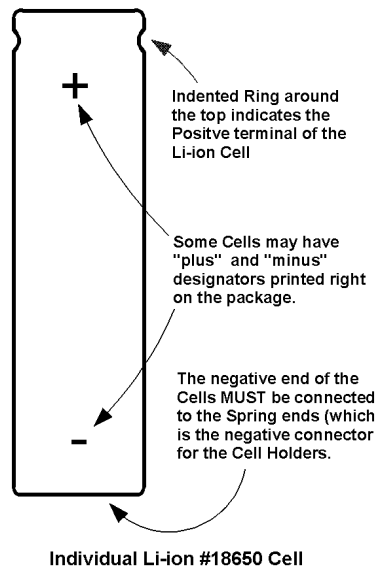

Figure 5
Step 11. Carefully remove the cells from their packaging. Note the positive cell polarity. Various brands of cells are marked differently. The positive terminal may be indicated by a ringed indentation near one end of the cell, or the packaging may be printed with "+" and/or "-" designators (as shown in Figure 5).